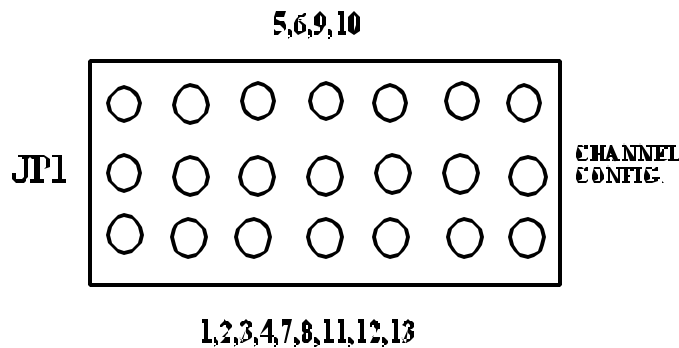

Figure 1. ASM Card Jumper Block
6. On both the operational and spare ASC, set the backup channel configuration using the seven jumpers on JP1. Using all seven jumpers, move the jumpers to the side of the block that lists the number of output channels for your site configuration, the center row of pins being common. Example: Using figure 1 as a reference, if your site configuration had 5, 6, 9, or 10 transmitters, each jumper would connect from the center row of pins to the top row of pins. If your site configuration had 1, 2, 3, 4, 7, 8, 11, 12, or 13 transmitters, each jumper would connect from the center row of pins to the bottom row of pins.